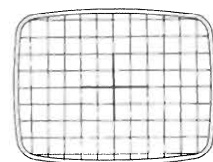

FIG. 5
1. Converge center of pattern using static convergence magnets. The red and blue rasters are moved both horizontally and vertically to coincide with the green. (See Fig. 5.)